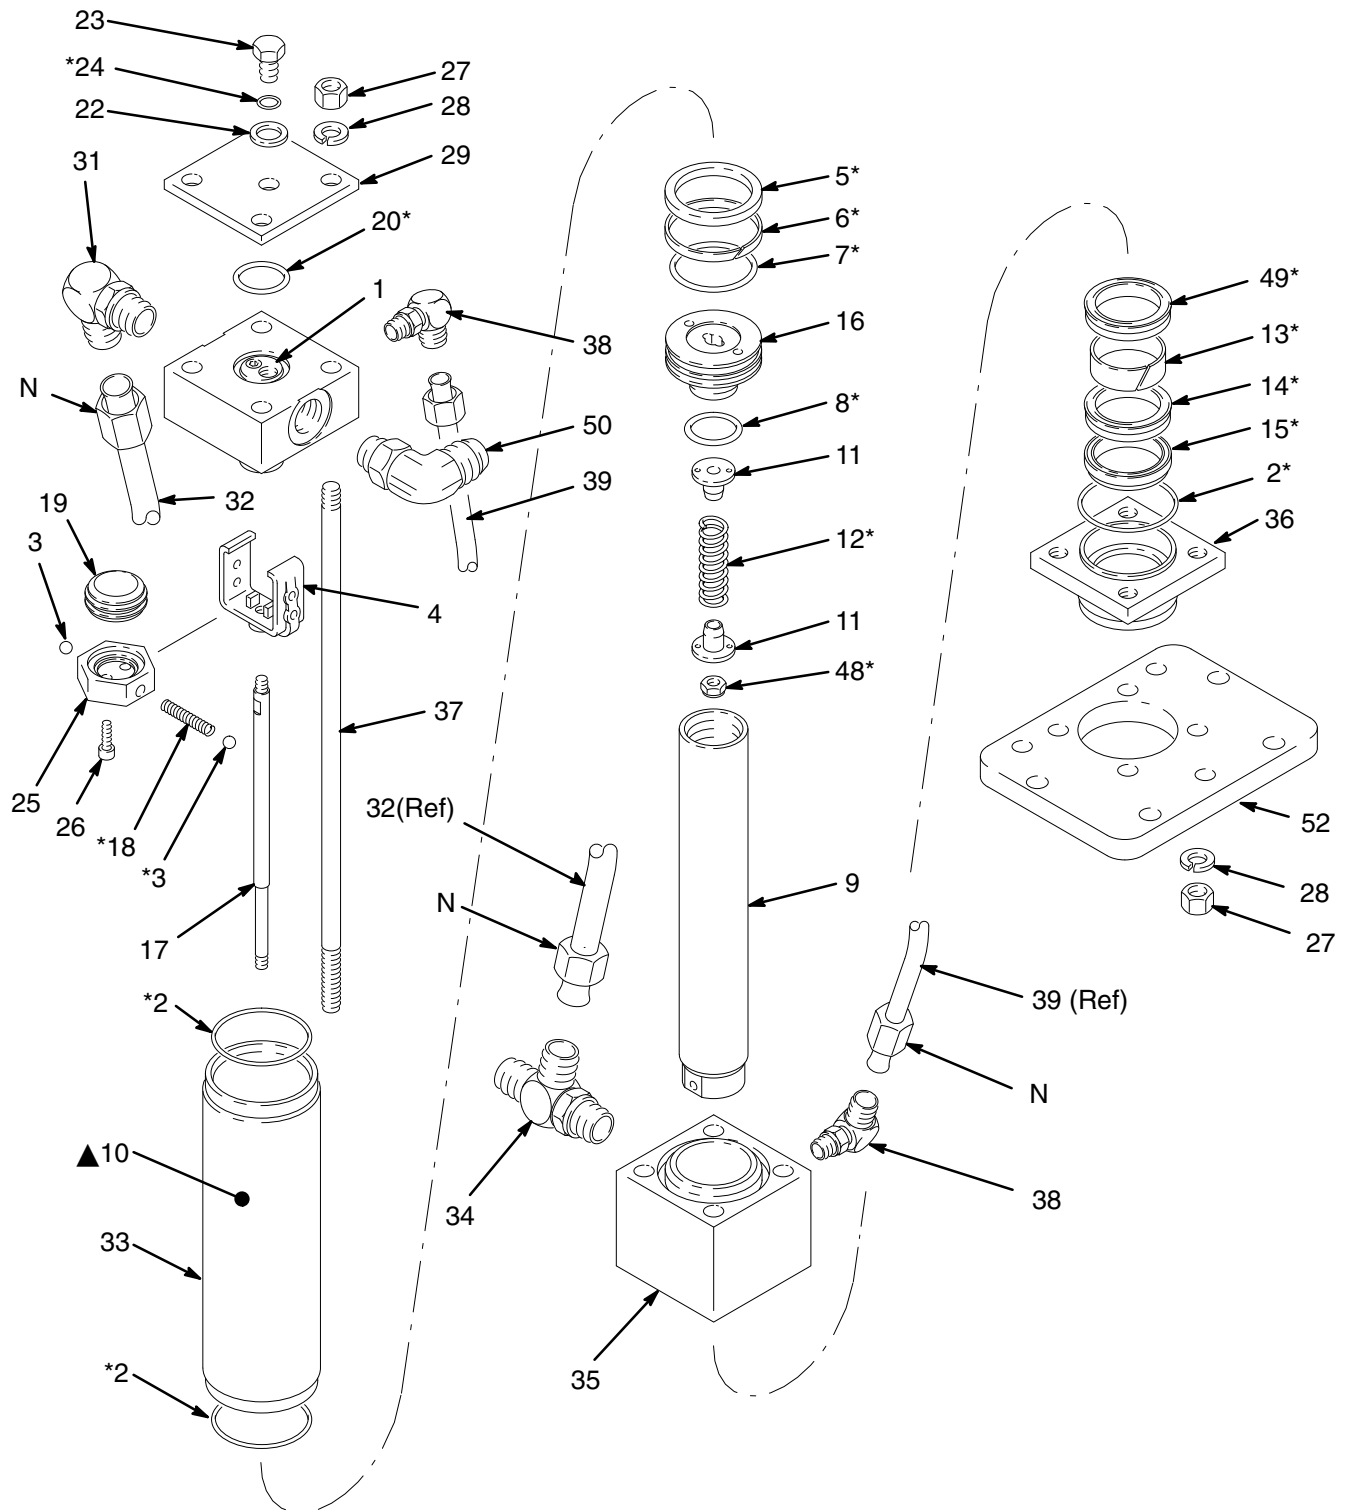

Fig. 1
2. Unthread the tie rods (37) from the retainer (36) and the tie plate, and pull them out through the top of the hydraulic motor. It will be necessary to remove the lower four nuts (27) and lockwashers (28).
3. Unscrew the four fluid tube nuts (N) and remove the tubes (32, 39). See Fig. 1. Allow excess oil to drain from the hydraulic motor, then plug the fluid fittings.
- b. Insert the spring (18*) and one ball (3*) into the valve stop (25). Tilt the valve stop and start guiding it into the tool, making sure the ball is sliding into the rounded slot in the tool.
- c. Place the second ball (3*) at the other end of the spring (18*) and push it in with your thumb while rotating the valve stop (25) until the spring is horizontal and the balls are in place. Continue holding this assembly together.
- d. Align the curved ends of the yoke with the valve sleeve groove, then press the assemblies firmly together. Make sure the balls snap into the upper detent holes (H) of the yoke (4), and the curved ends of the yoke engage the valve sleeve (19) groove. To remove the tool, slide it over the trip rod (17).
11. Place the bottom cylinder cap (35) in a vise. Install the o-ring (2*) in the cap. Set the cylinder (33) on the bottom cap.
12. Install the o-ring (2*) in the top valve spool (1). Make sure the hydraulic fittings (31, 34, and 38) are oriented as shown in Fig. 1, then slide the displacement rod (9) and piston (16) into the cylinder (33) until it seats in the top cap.